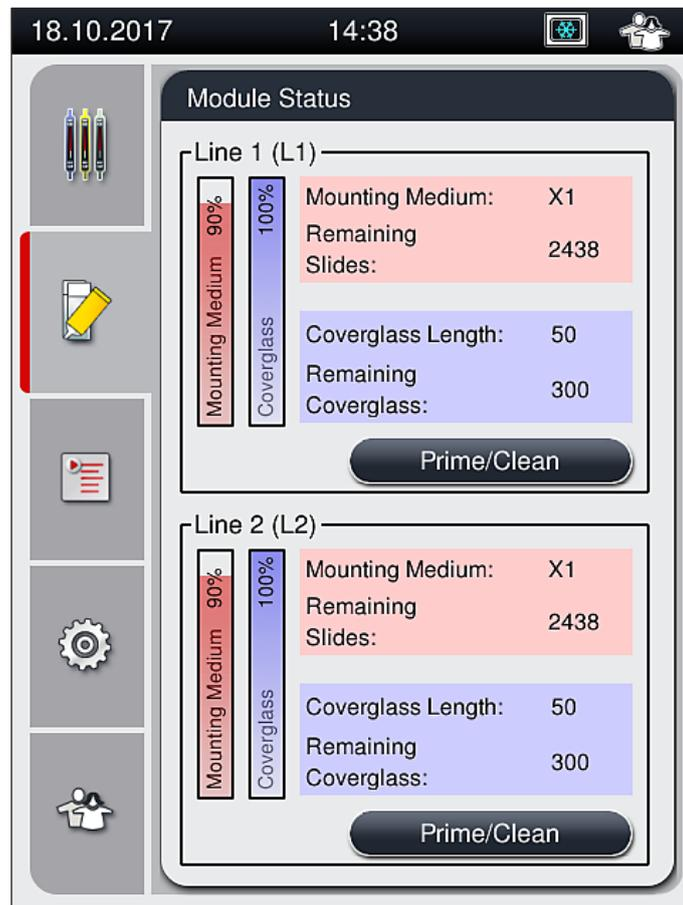

Fig. 54
10. The mounting medium bottles that are reinserted are detected by the instrument software and the **Module Status** (→ Fig. 54) is updated.